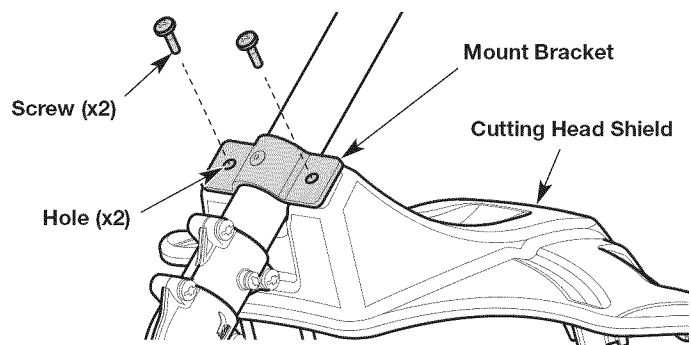

Fig. 3
1. Place the cutting head shield under the mount bracket (Fig. 3). Align the holes in the cutting head shield with the holes in the mount bracket (Fig. 3).
2. Insert the screws (x2) into the aligned holes (Fig. 3). Tighten the screws by hand until they are finger tight.